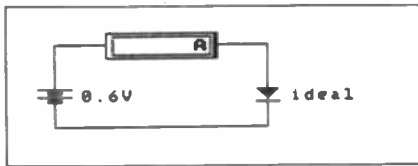

Fig. 3.6. Circuit for Assignment 3.1.
1. Connect the circuit shown in Fig. 3.6 using a 0.6V battery.